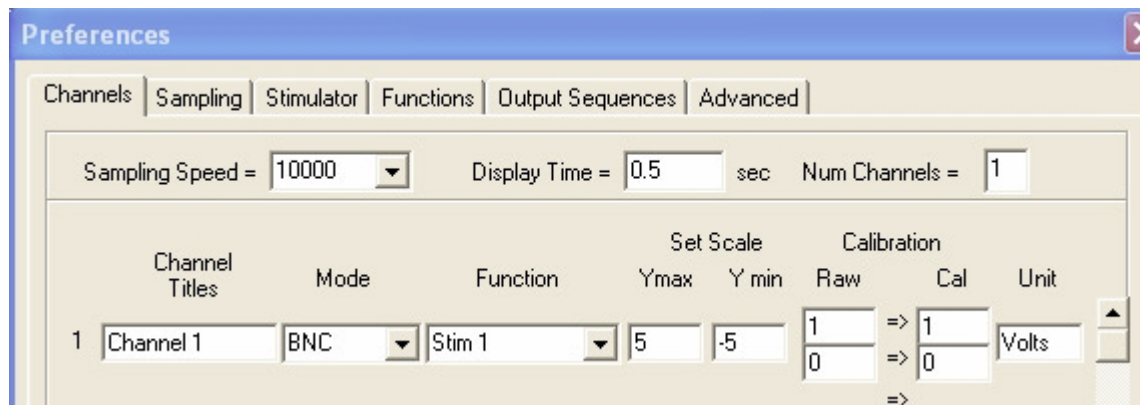

Figure 6-2: Channels page of the Preferences dialogue window set for the pulse mode example.
- 1 To construct and record some examples of stimulus pulses, select **Preferences** from the **Edit** menu. On the **Channels** page of the **Preferences** dialogue window set a channel that has a BNC input to record at 10,000 samples/sec and display 0.5 second on the screen (Figure 6-2 on page 76).
- 1 To construct and record an example of pulse trains, select **Preferences** from the **Edit** menu. On the **Channels** page of the **Preferences** dialogue window set a channel that has a BNC input to record at 10,000 samples/sec and display 0.5 second on the screen (Figure 6-2 on page 76).
- 1 To construct and record an example of pulses in step mode, select **Preferences** from the **Edit** menu. On the **Channels** page of the **Preferences** dialogue window set a channel that has a BNC input to record at 10,000 samples/sec and display 0.5 second on the screen (Figure 6-2 on page 76).